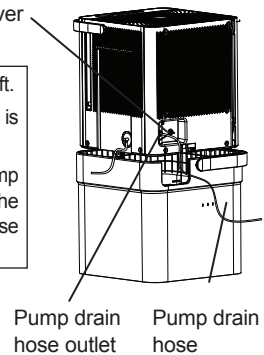

Fig. 12
- To install the pump hose, remove the plug from the pump drain hole and firmly attach the the included pump hose as shown in Fig. 12.